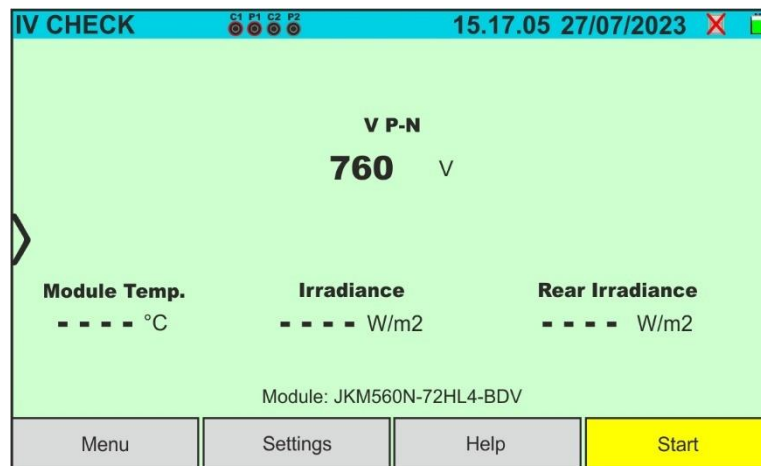

Fig. 58: Initial IVCK test screen without remote unit on Bifacial modules
8. In the case of **Bifacial** modules, the Fig. 58 screen is present on the display. The following parameters are shown: